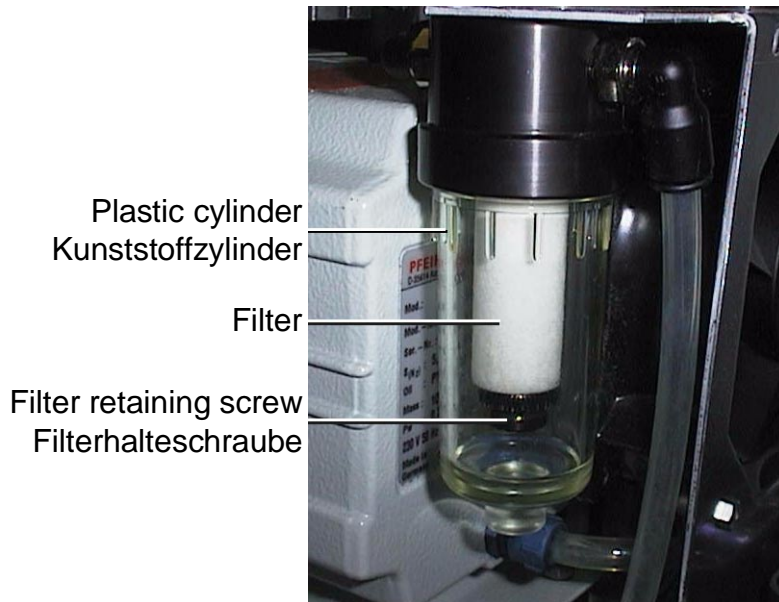

Fig. 20 Replacing the filter of the oil mist filter
- Visually check the transparent plastic cylinder (→ Fig. 20).